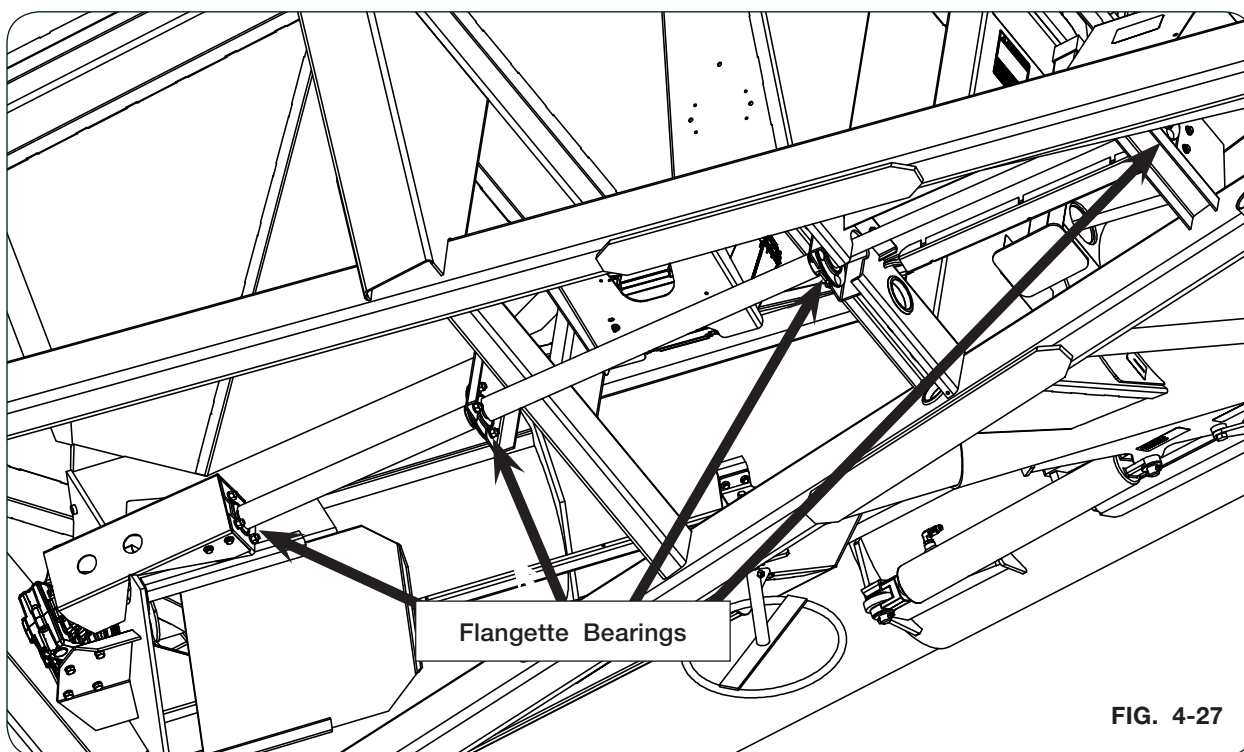

FIG. 4-27
2. Loosen the setscrews (9399-071) on all flangette bearings (9003920) (Fig. 4-27).